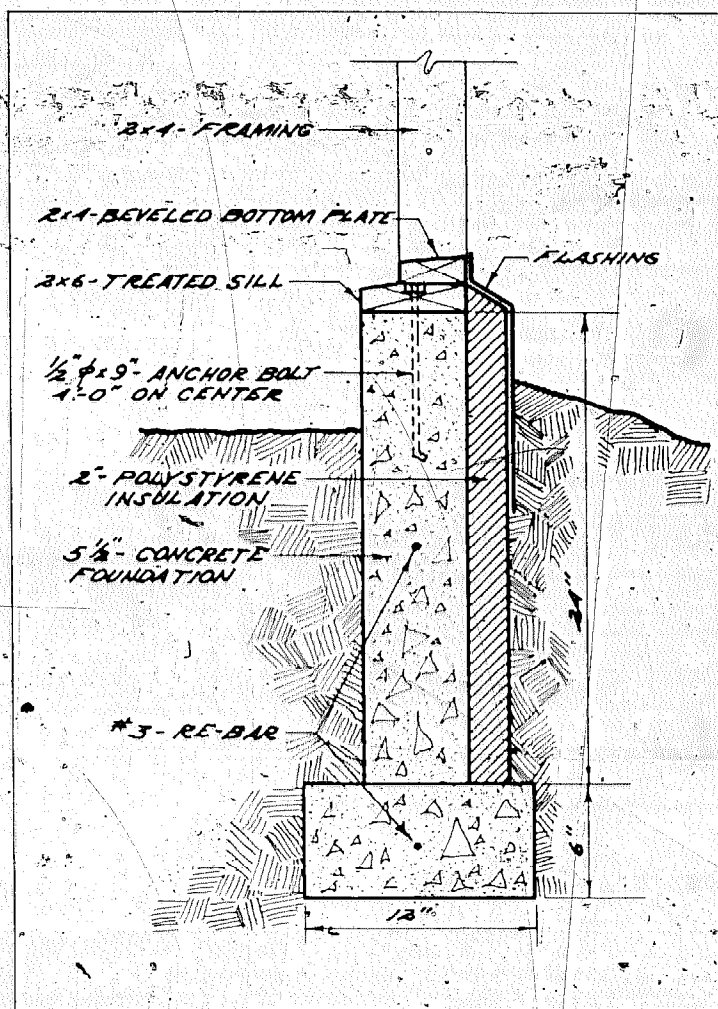
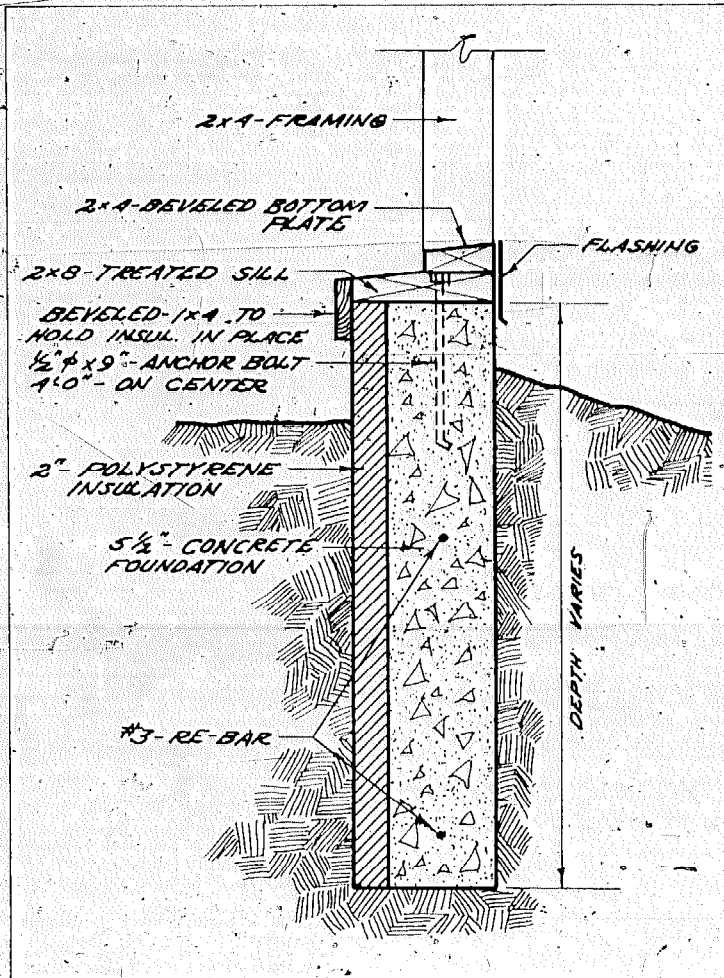

FIGURE 5.1A Poured concrete footing and foundation wall (shown with insulation on the outside)
FIGURE 5.1B Concrete foundation wall without footing — for use in very stable soils (shown with insulation on the inside of the wall)
The insulation should extend high enough to cover the sill of the foundation to avoid exposing the foundation to the cold. (The top of the insulation can be beveled [See Figure 5.1A], or a beveled strip of wood can be used on top of the Styrofoam and under the flashing). To cut a clean bevel on the insulation directly, set the blade of a circular saw at the proper angle and push the saw along a straight board clamped onto the Styrofoam.
1. Rolls of flashing can be purchased in various widths. It should be available in the width you need. For example, in Figure 5.1A, there is eight inches of flashing below ground, six inches above ground, plus two and one-half inches needed at the slope of insulation and another two inches to tuck the flashing under the siding. Therefore, the width needed is 18½".
A poured concrete footing and foundation wall is extremely strong and will support any type greenhouse. If durability and resale value are primary considerations for your greenhouse (or if building codes require) use this type of foundation. Reinforcing rod ("rebar") is recommended for soils where settling or frost heaving is a consideration. A two-foot depth foundation, shown in the illustration (Figure 5.1A), is sufficient for most areas where the earth freezes. A one-foot depth is sufficient in freeze-free areas. The 5½" thickness accommodates a 2×6" sill to form a well-shaped structure. The footing is essential in unstable soils. In cases where the soil is particularly stable and local codes permit it, the footing can be omitted (Figure 5.1B). (Concrete and Formwork, referenced in the Bibliography, discusses site-built concrete forms, mixtures, etc.)